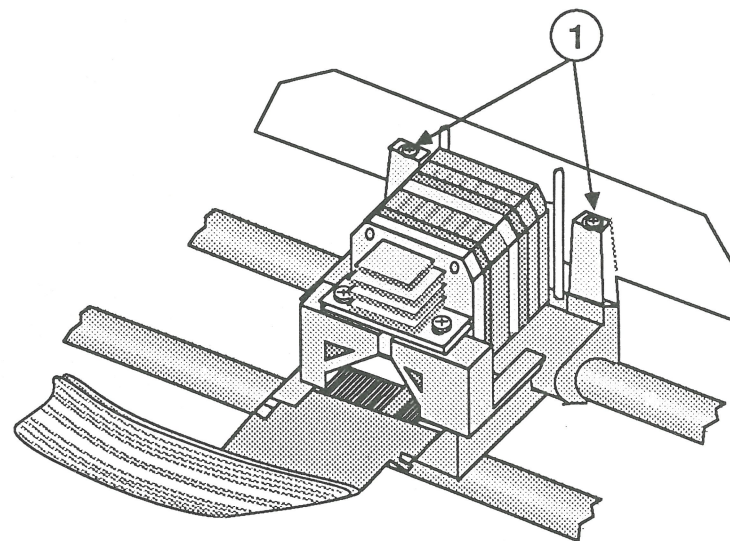

FIGURE 13
3. Remove the two Phillips screws securing the card guide to its two mounting posts (Figure 13, #1).